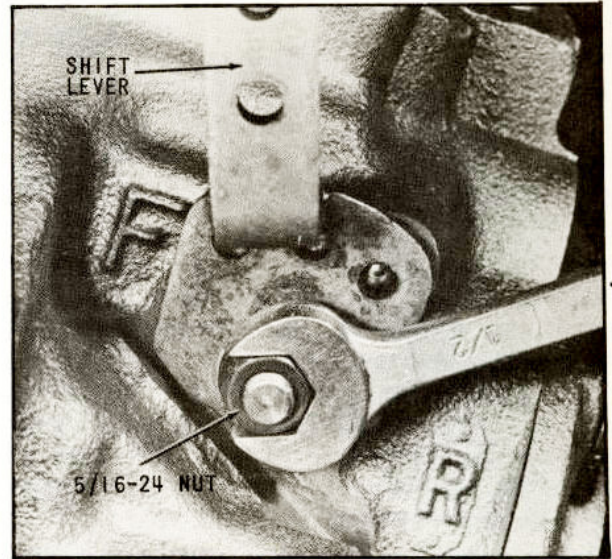
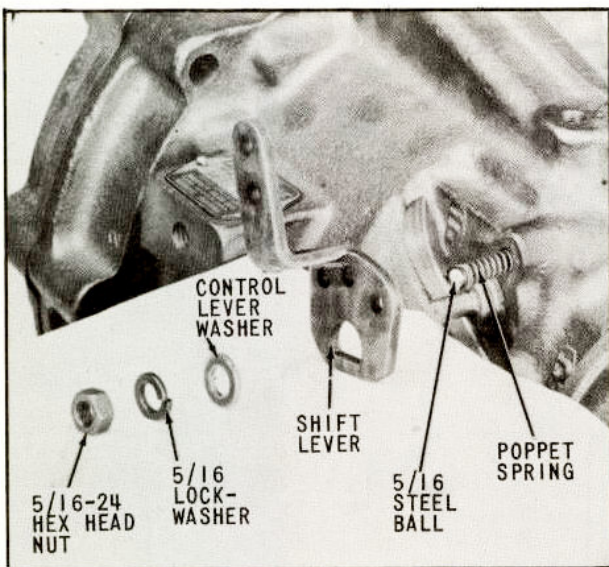

Fig. 73 Shift Lever Assembled
Fig. 72 Assembly of Shift Lever and Related Parts
79. Assemble shift lever and related parts in the order shown in (Fig. 72). Torque the hex nut 8 to 11 pounds-feet, (Fig. 73). Rotation of the valve and spring assembly through the forward, neutral and reverse positions should require no more than fingertip effort. If valve binds in rotation, remove and inspect.